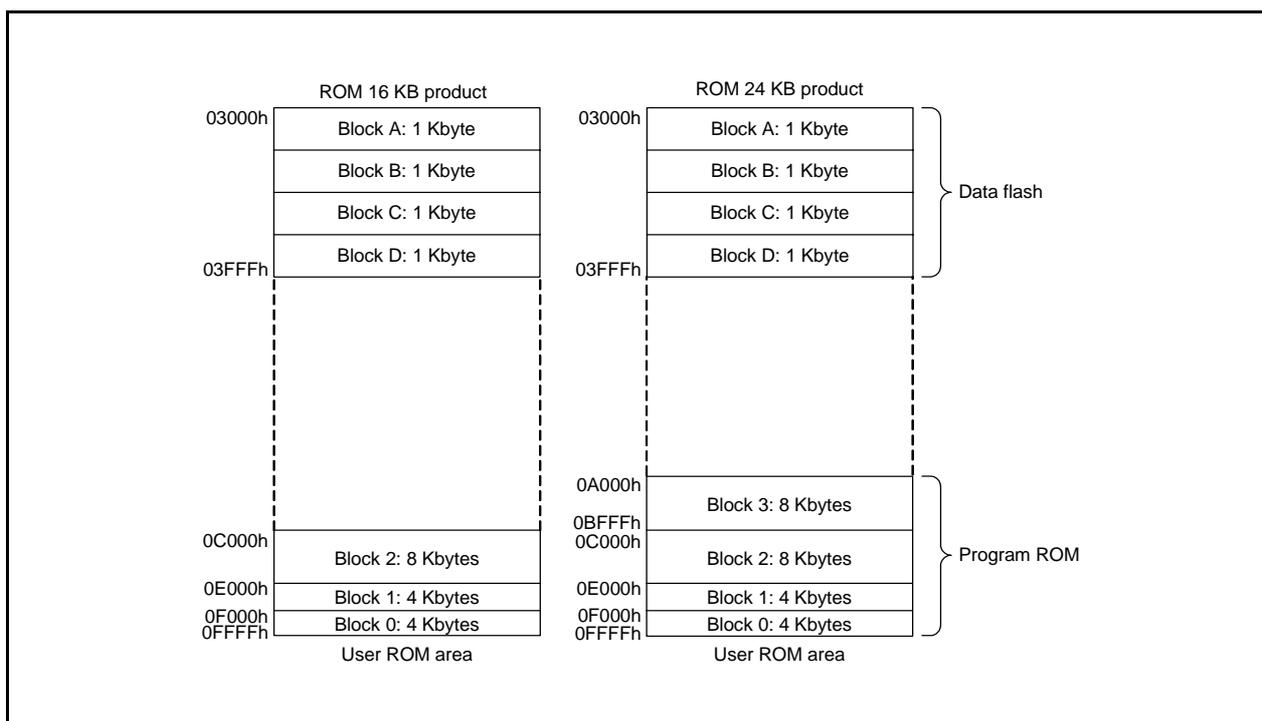

Figure 31.1 R8C/35C Group Flash Memory Block Diagram (1)
- The number of blocks and block division vary with the MCU. Refer to **Figures 31.1** and **31.2 R8C/35C Group Flash Memory Block Diagram** for details.
Figures 31.1 and 31.2 show the R8C/35C Group Flash Memory Block Diagrams.